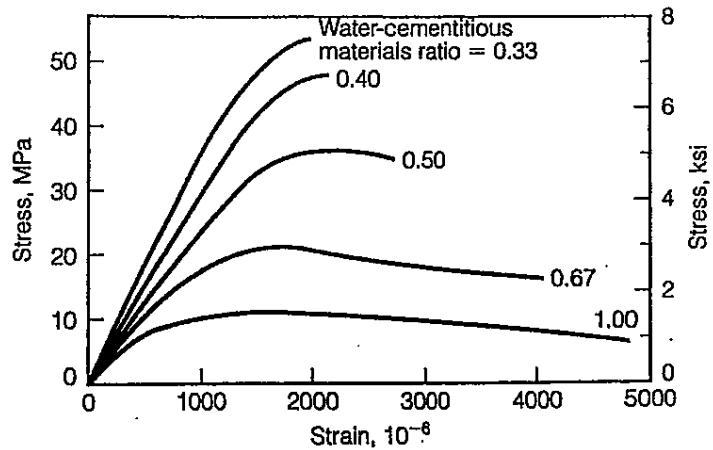

Figure 2
2. Figure 2 shows the compressive stress-strain diagram of concrete specimens with different water-cementitious ratio.